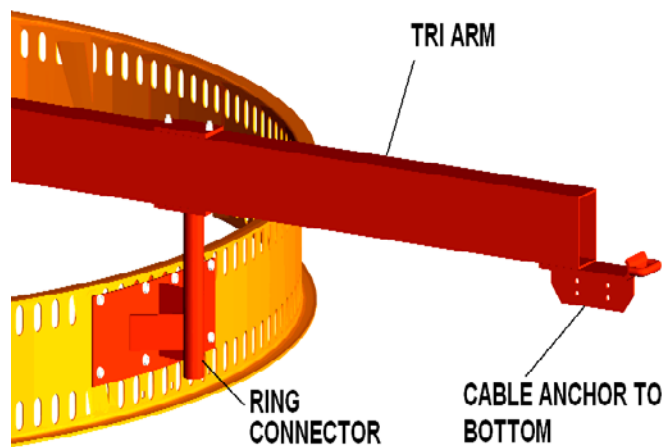

FIGURE 12
2. Bolt a tri-arm to the top of each ring connector using (2) 3/8" x 5" hex bolts and whiz nuts for each. See Figure 12. The arms are to be installed with the cable anchor at the outer end on the bottom side.